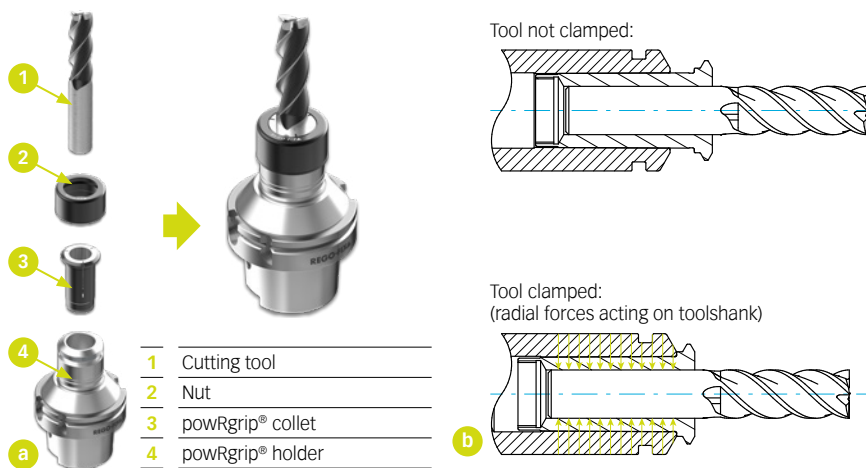

Figure 3.3
► Figure 3.3 (a) [18] shows the three components of the powRgrip® system: toolholder, collet and cutting tool, left in the unclamped state and right in the clamped state. In addition to this, ► Figure 3.3 (b) [18] a sectional view of the clamping area, at the top in the unclamped state and at the bottom in the clamped state.